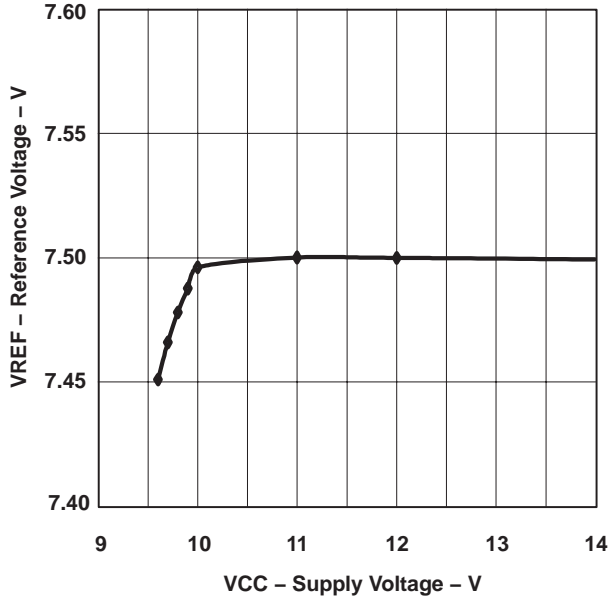

Figure 2
(2) Reference variation for $V_{CC} < 10.8\text{ V}$ is shown in Figure 2.